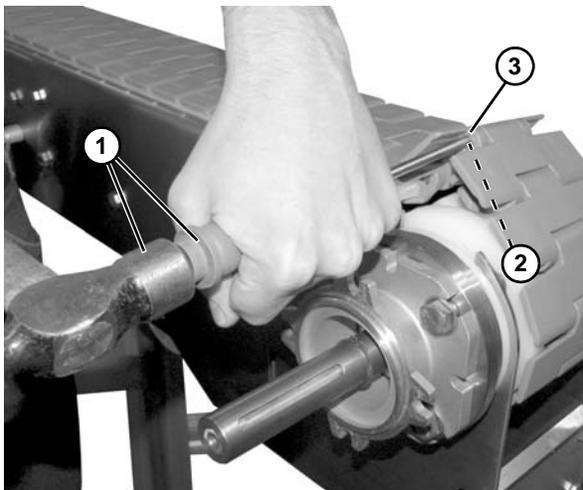

Figure 16
- c. Use a punch and hammer (**Figure 16, item 1**) or belt removal tool #514698 to press pin (**Figure 16, item 2**) just below flush with side of belt (**Figure 16, item 3**). Stop when pin detent is felt.